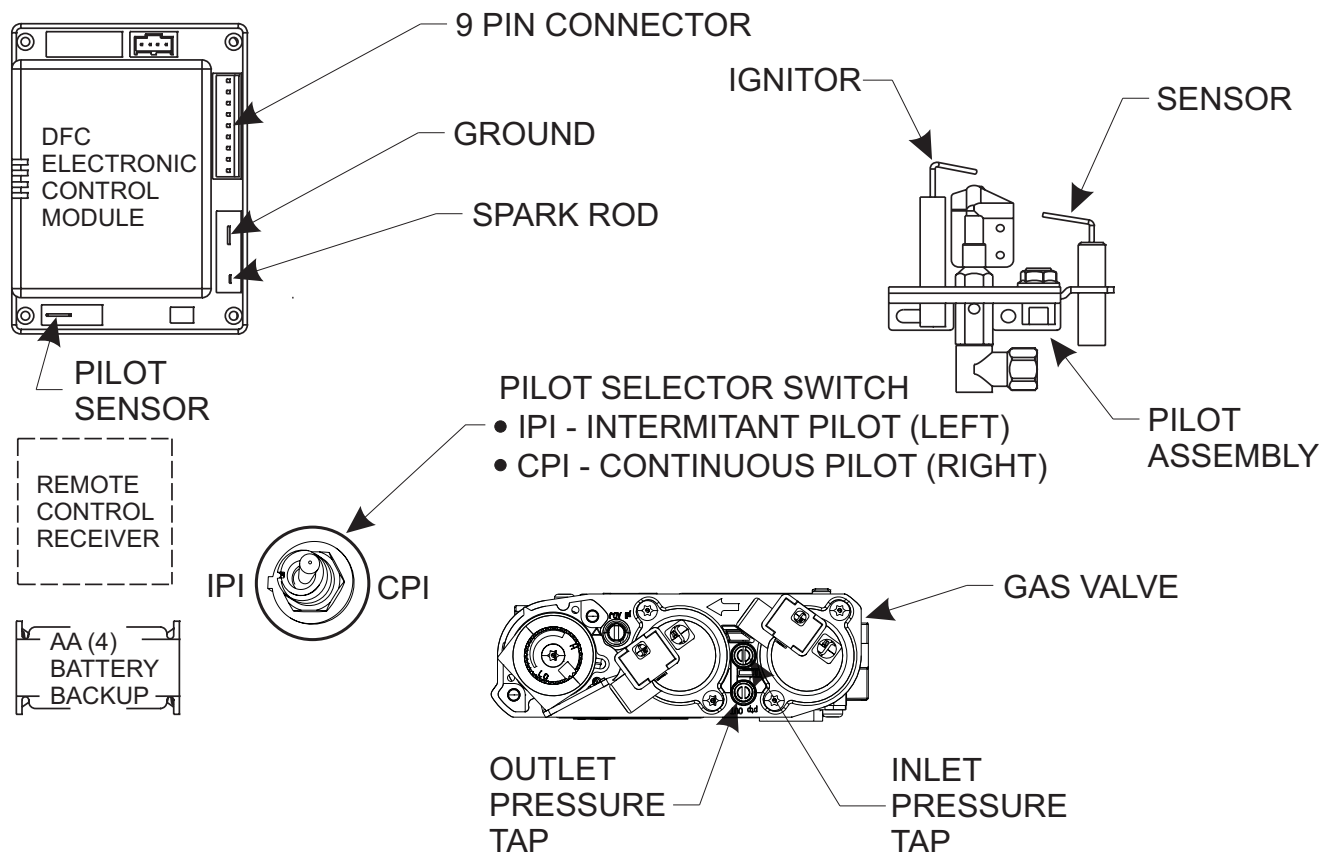

Figure 19
NOTE: A small toggle switch is located on a bracket that is used to switch from IPI (upward position) to the CPI (downward position). See **Figure 19**.
3. The gas valve has inlet and outlet pressure taps as shown in **Figure 19**. Refer to page 11 for gas pressure requirements.
NOTE: The gas control has a manual HI/LO flame adjustment knob (regulator) that allows you to increase or decrease the height of the burner flame. See **Figure 19**. Rotate the HI/LO knob counterclockwise to "HI" to increase the flame height, and clockwise to "LO" to decrease the flame height.